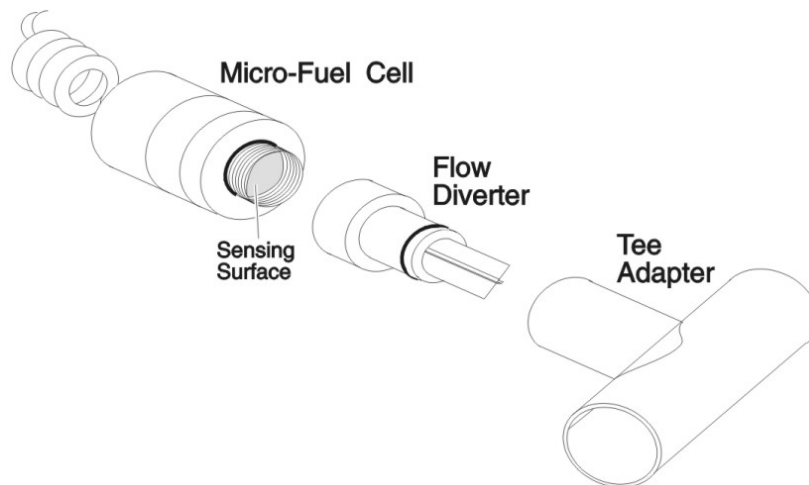

Figure 2-3: Mounting the Sensor in the Tee Adapter
*Note: When the AX300-I instrument is used for diffusion sampling (i.e., incubators, tents, etc.), the plastic flow diverter must be removed from the R17MED sensor. If the sensor is used in breathing circuits, etc, the diverter must be used as shown in Figure 2-3.*
When analyzing for oxygen in breathing circuits, the flow diverter must be used. The diverter should be screwed onto the threaded front end of the R17MED sensor. A tee adapter (plastic, P/N A268, or metal, P/N A283) should be placed into the circuit, and the above sensor assembly plugged into the tee adapter. See Figure 2-3.